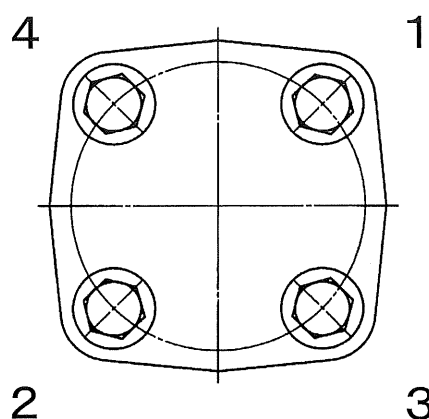

Figure 7.2 Examples for the Sequence of Bonnet Bolts Tightening
- 5) For tightening the bonnet bolts, diagonal opposite bolts shall be tightened alternately as shown in Figure 7.2 until the body flange and bonnet flange come into close contact.